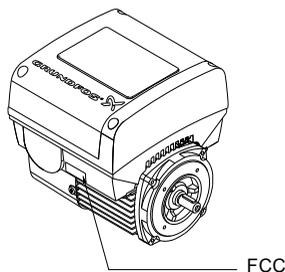

Fig. 65 FCC label
- If the CIM module is supplied with an FCC label, then place this on the terminal box. See fig. 65.